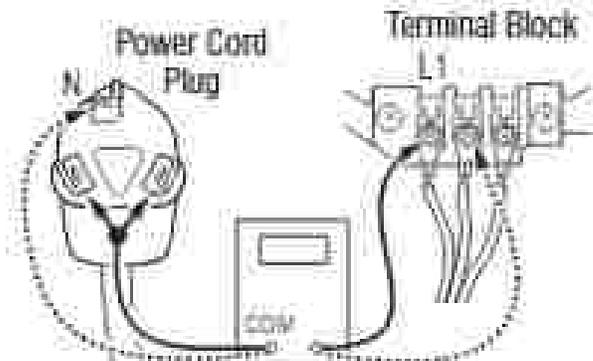

Figure 2 - Plug-to-terminal connection for electric dryer.
3. With an ohmmeter, check for continuity between the neutral (N) terminal of the plug and the center contact on the terminal block. See Figure 2.
4. In a similar way, check which terminal of the plug is connected to the left-most contact on the terminal block and make a note of it. This will be L1 (black wire) in the wiring diagram. See figure 2.